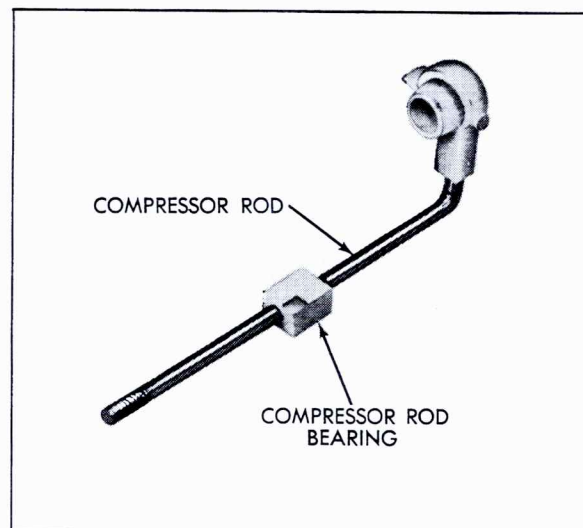

Fig. 15-24 Compressor Rod to Bearing Alignment
housing and slide off compressor rod bearing, Fig. 15-24.
1. Lubricate compressor rod with cam and bearing lubricant and slide compressor rod bearing on compressor rod with notch on inboard side, Fig. 15-24.